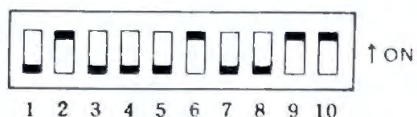

Fig. 5-2-11
- Set the DIP switches on the rear panel of the FM-8 as shown in Fig. 5-2-11.